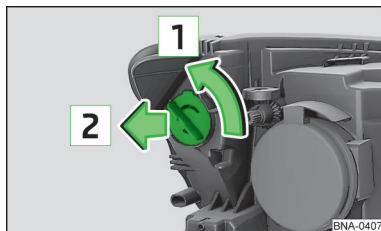

Fig. 110
- Turn the pedestal with the light bulb in the direction of arrow **1** and pull out in the direction of arrow **2** » fig. 110.